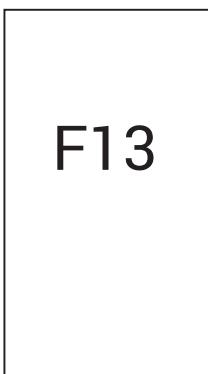

fig. 4
**Type F fault (fig. 4):** A fault which will be automatically reset after the problem has been eliminated.